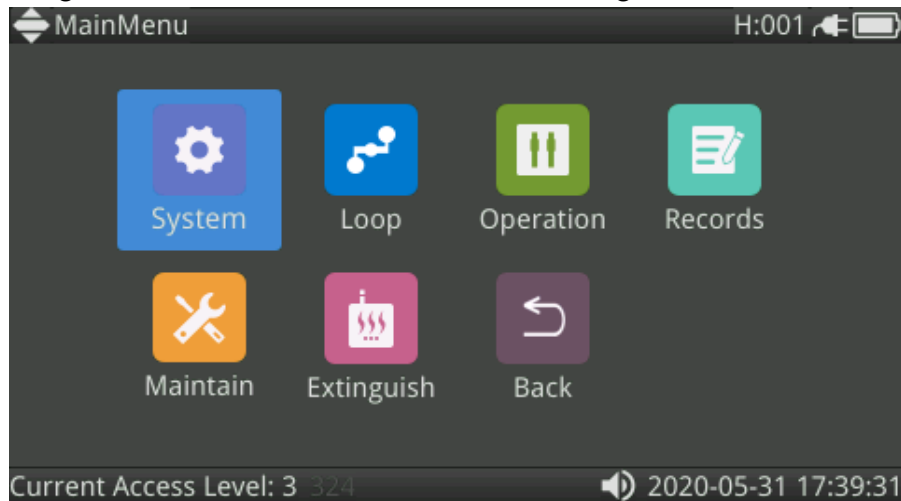

Figure 4-1 Main menu interface
- ✧ Press the **OK** button to enter the corresponding sub-menu option interface to start each setting. The Main Menu interface is shown in Figure 4-1 below.